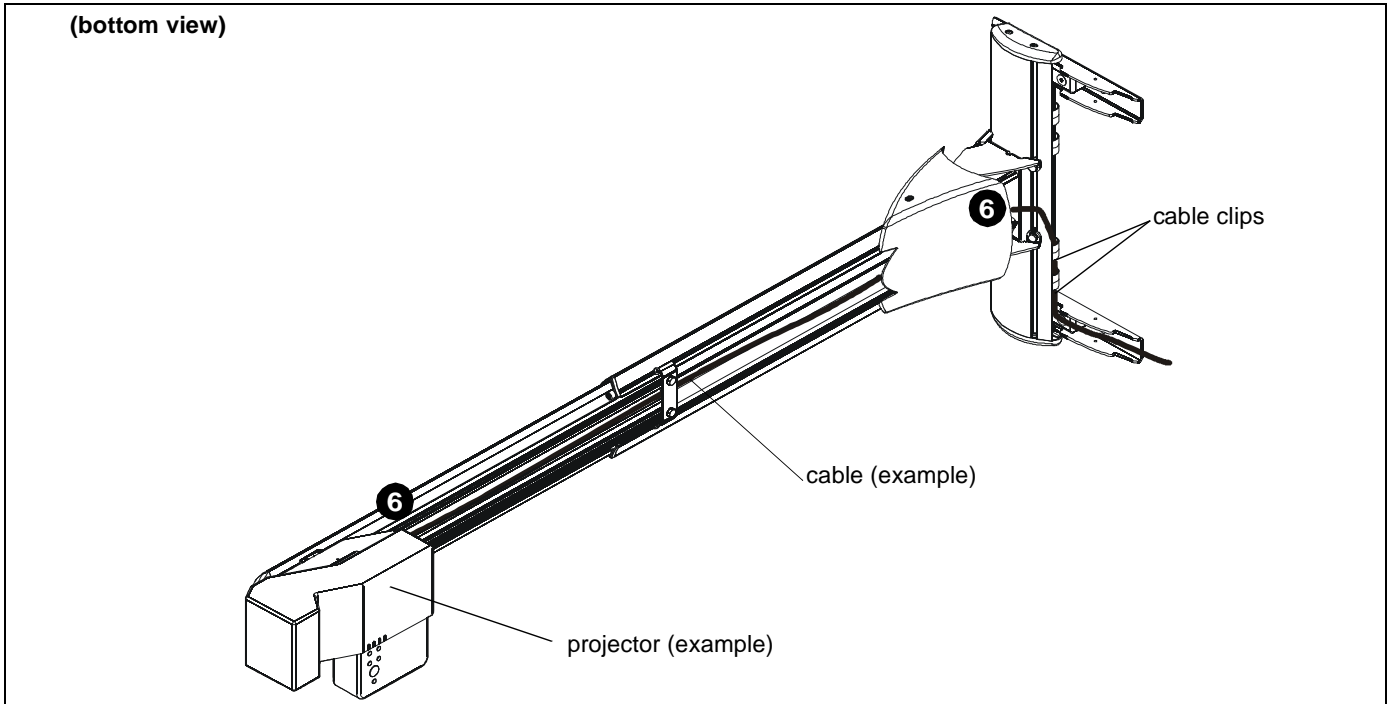

Figure 24
6. Route cables through cover mount, projector arm tunnel and into projector. (See Figure 24)